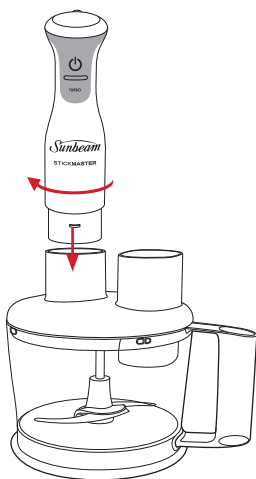

Figure 1
2. Insert the motor housing into the processing bowl lid and twist the wand in a clockwise position until you hear a click. See Figure 1.